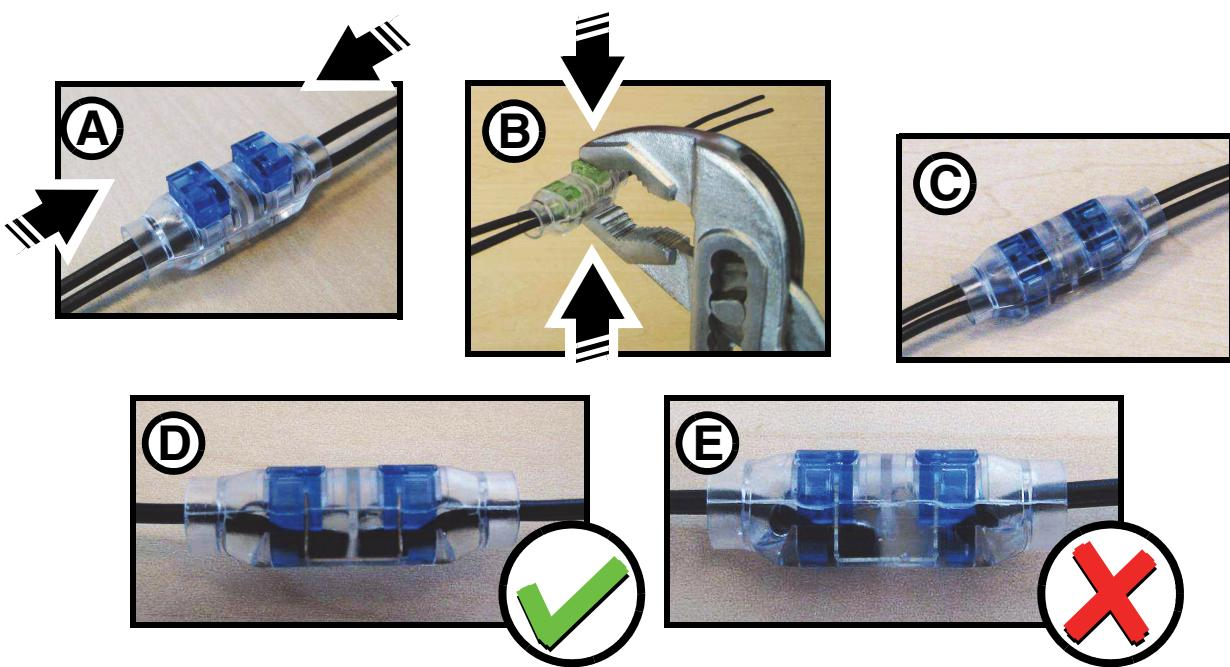

Figure 1: Splicing ribbon cable
4. See Figure 1. Do not strip insulation from wire ends. Push two matching pairs of wire ends into a splice connector until the ends touch the center wall inside the connector (**A**). Holding the wires in position, use water-pump pliers to press the terminal clamps into the connector (**B**) until the tops of the clamps are level with the transparent connector body (**C**).